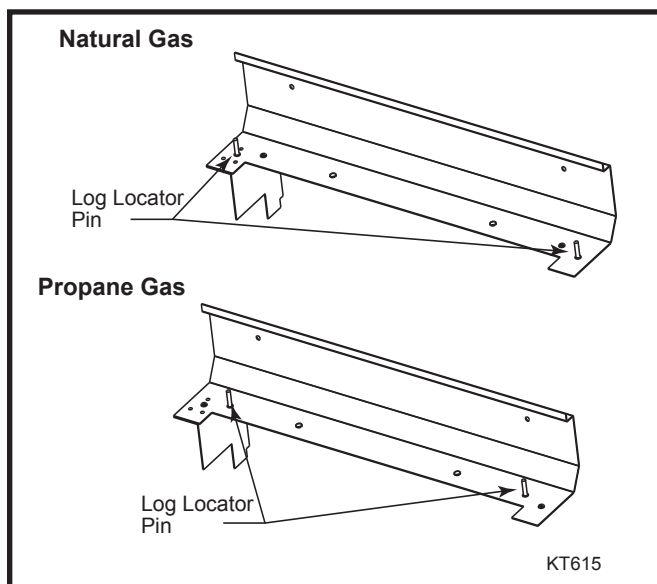

Fig. 45 Move log locator pins to new locations on rear log support.
6. **For Model 36LDVT ONLY:** Remove the rear log support and relocate the two (2) screws that locate the rear log as shown in Figure 45.